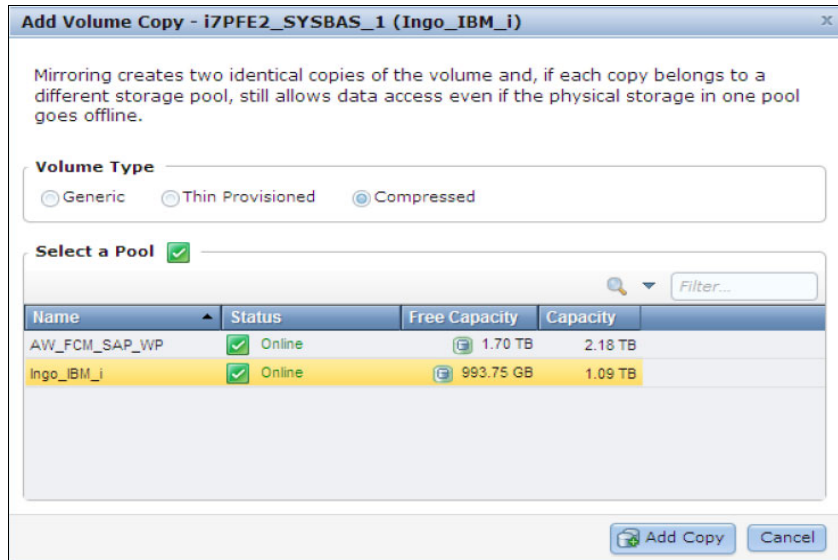

Figure 2-42 IBM Storwize V7000 adding a volume copy
- In the Add Volume Copy window, select **Compressed** as the volume type and a pool for the new VDisk copy. Click **Add Copy** to create a VDisk copy on a compressed volume, as shown in Figure 2-42.